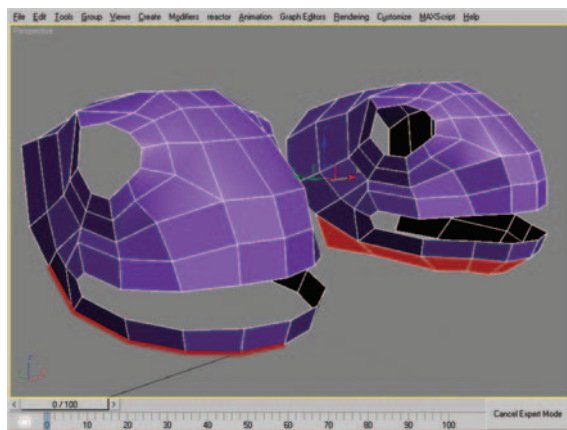

Figure 9.20 Edge selection and resulting new polygons after performing shift-drag.
20. Select the five edges seen in Figure 9.20 (left) and shift-drag them down to create an additional row of polygons (Figure 9.20, right). I also moved some edges to adjust the shape to my liking; this is based on personal taste, not necessity.